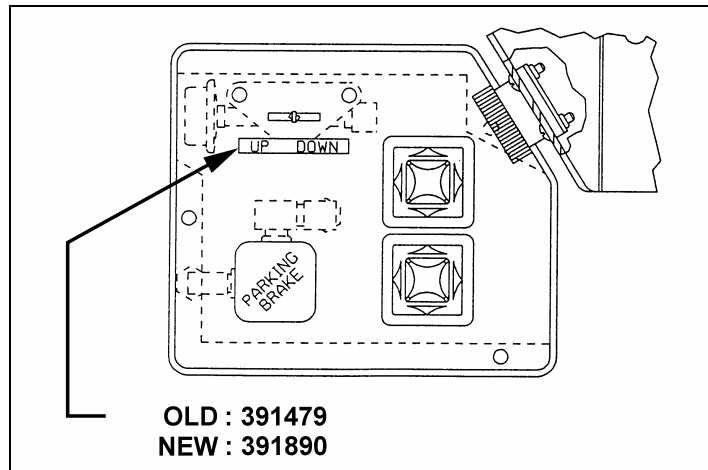

FIGURE 4 : NEW SELF-ADHESIVE LABEL
7. In driver's area, change self-adhesive label (Prévost #391890) located on left hand console panel (refer to figure 4).